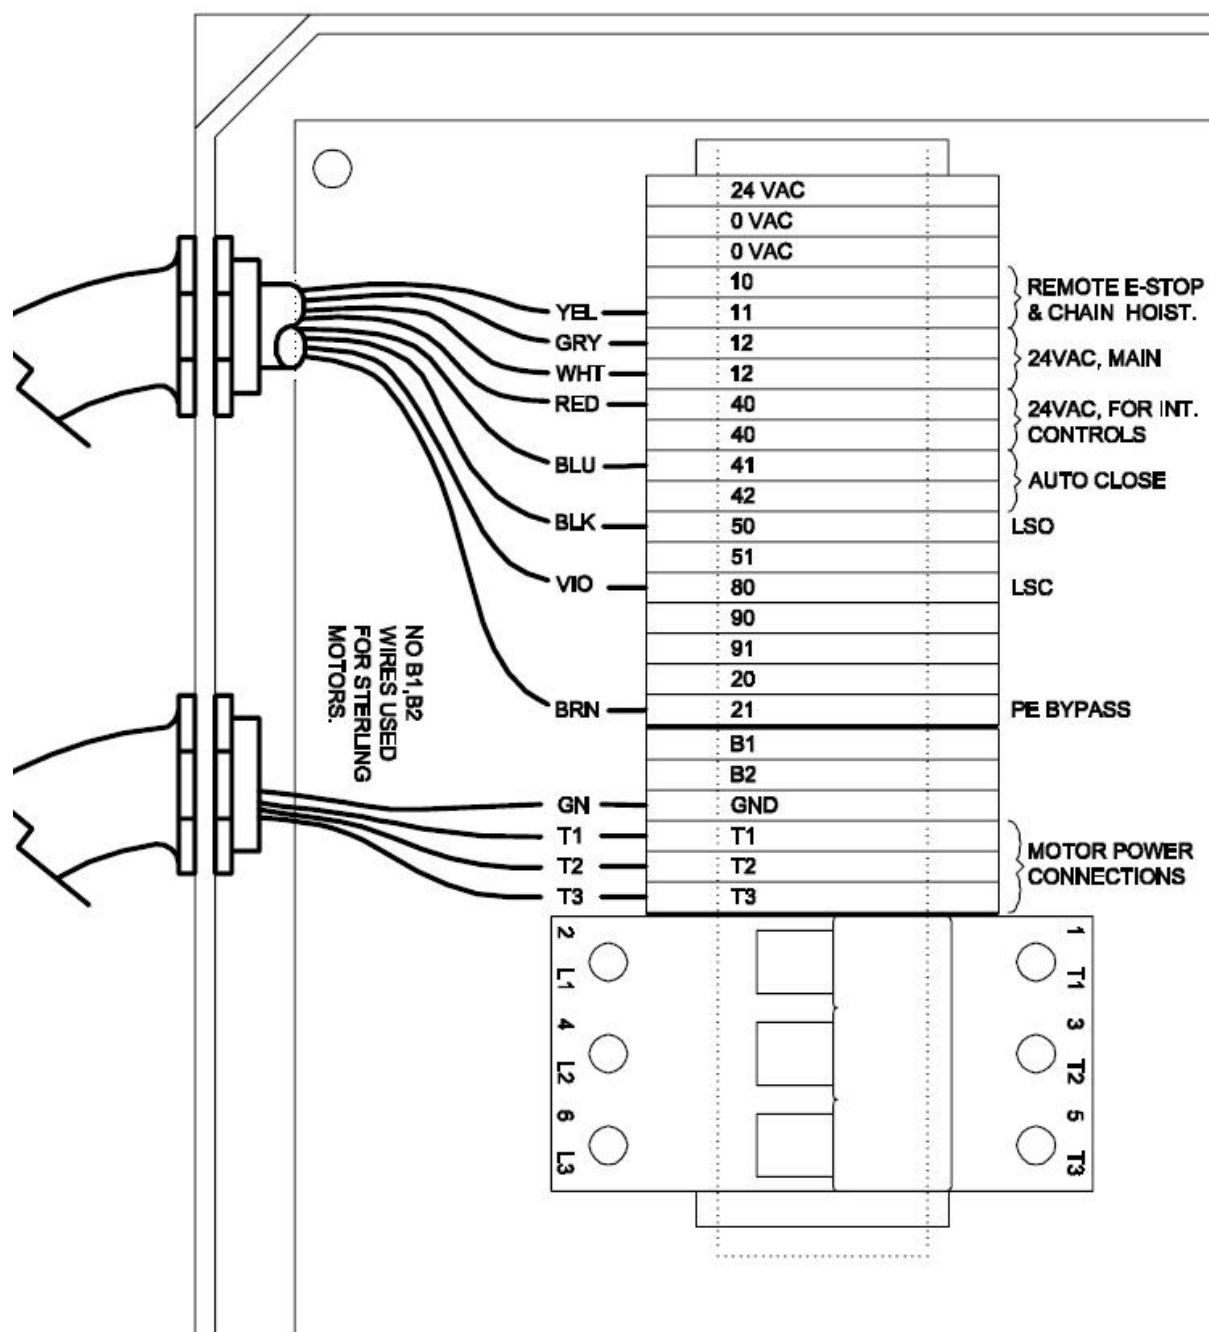

Fig. 4
Step 12. Install flex conduit into control panel and rewire according to schematic in Fig. 4.